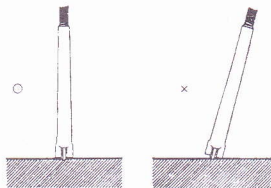

Fig.6
2.While measuring surface temp, touch the surface with tip of temp. Probe closely. (See Fig.6)